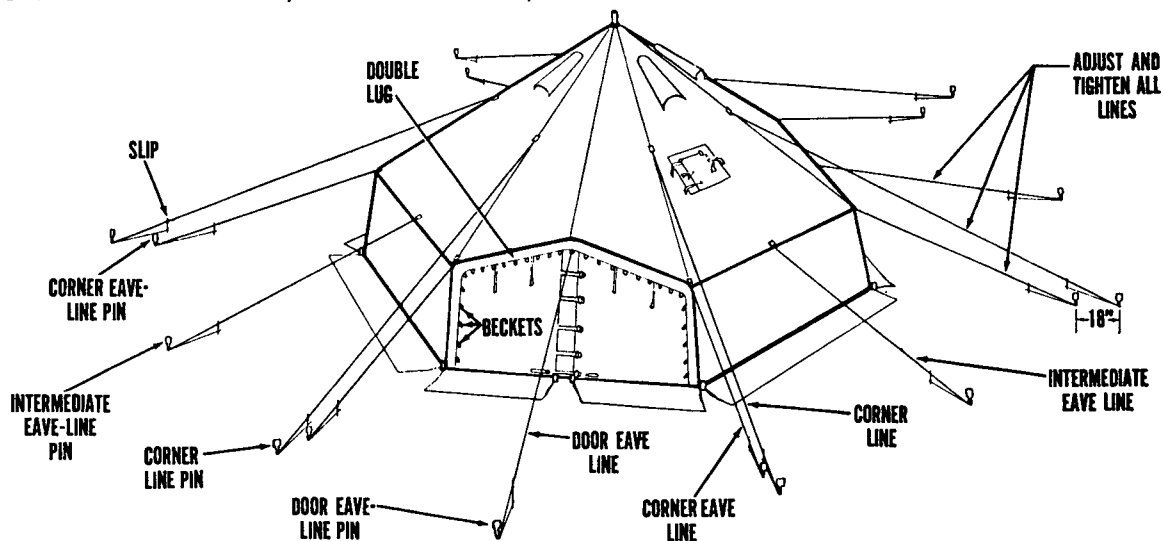
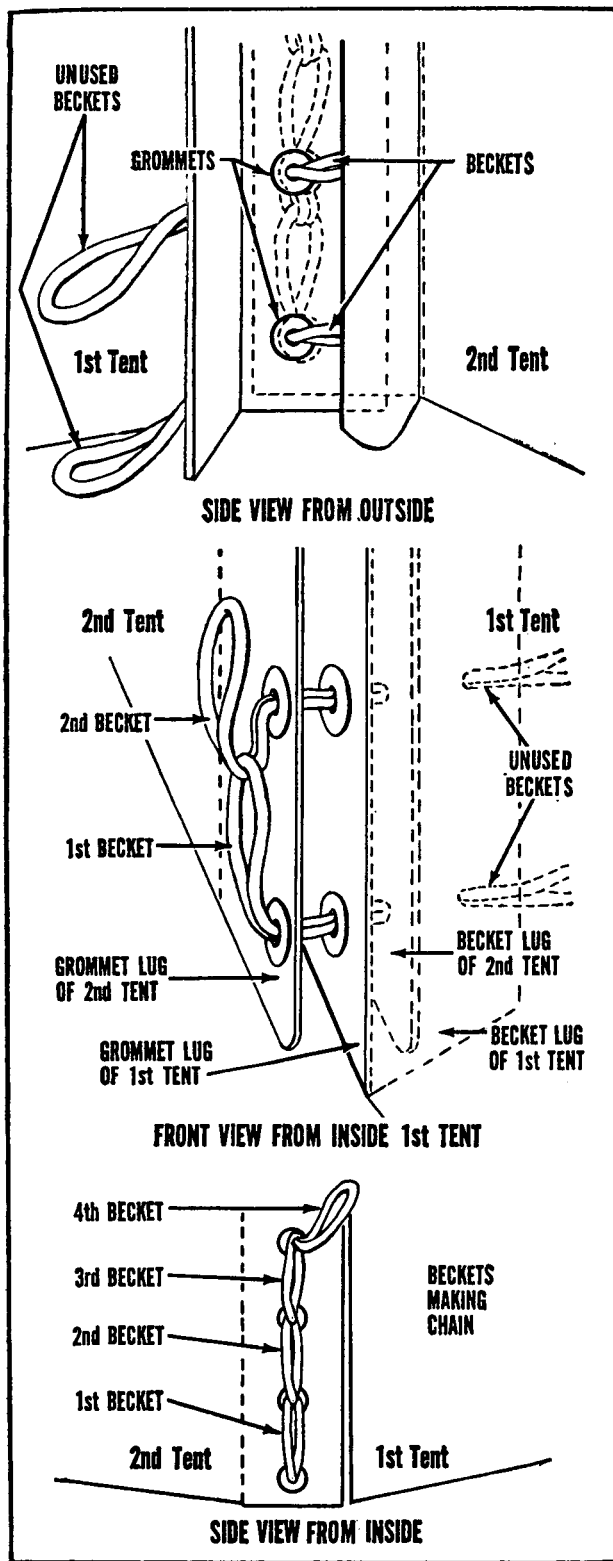

Figure 3. Steps in pitching tent, arctic, 10-man.
Figure 4. Joining two tents together by chain-lacing becketts through grommets.
(1) *Preliminary procedures* (1, fig 3).
(2) *Attaching corner eave lines and inserting tentpole* (2, fig 3).
(3) *Raising tent* (3, fig 3).
(4) *Attaching door eave lines, intermediate eave lines, and corner lines* (4, fig 3).
tents are to be joined together, erect the first tent described above. Fasten lugs (4, fig 3) at front or rear of tents together by inserting grommet lug of one tent between grommet lug and becket lug of other tent, and chain-lace beckets (4, fig 3) on lug of one tent through grommets on each lug of both tents (fig 4). Begin chain-lacing at bottom (near the ground) of lugs and continue until bottom (near the ground) at the other end of the same lugs is reached, securing last becket with a knot. Then erect second tent in the same manner as first tent.